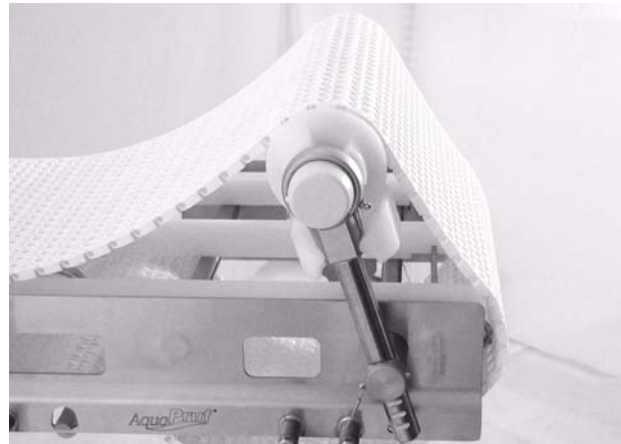

Figure 37
2. Tip up idler tail assembly (**Figure 37**).